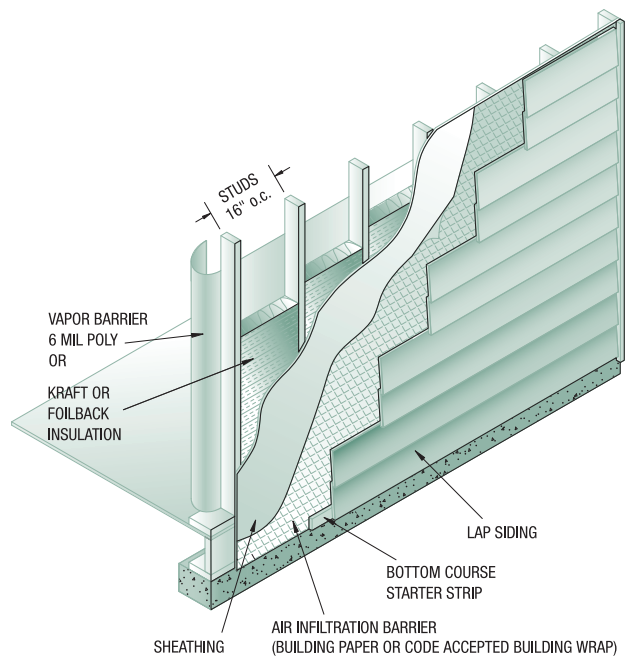

FIG. 6
- Stagger butt joints across wall (*See Fig 6*) making sure joints are on studs for required nailing. Gap joints 3/16" and use joint covers.